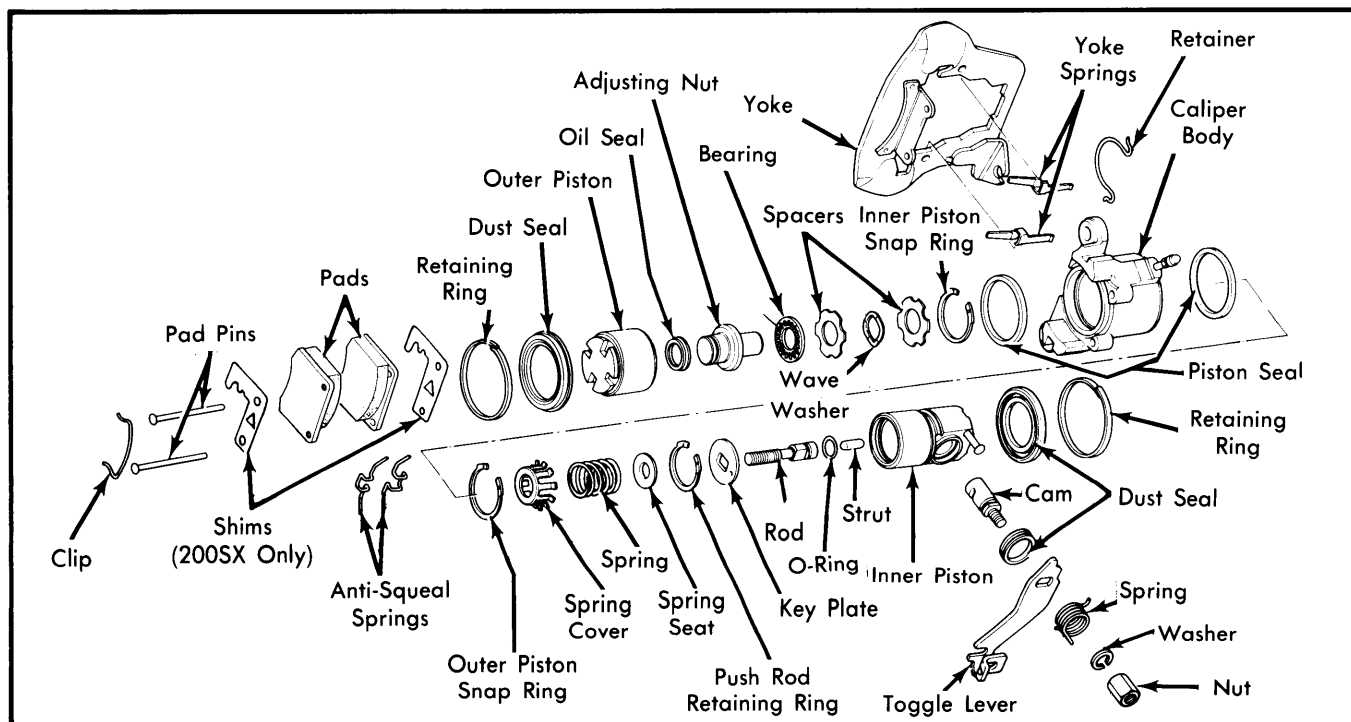

**Fig. 7 Installation of Oil Seal on Rear Caliper Adjusting Nut**
**Reassembly** — 1) Apply suitable grease to push rod groove, "O" ring, strut ends, oil seal, piston seals and inside dust seals. Install new oil seal on adjusting nut. See Fig. 7. Slide adjusting nut and seal into outer piston, then install bearing, spacer, wave washer, second spacer and secure components in position with outer piston snap ring.